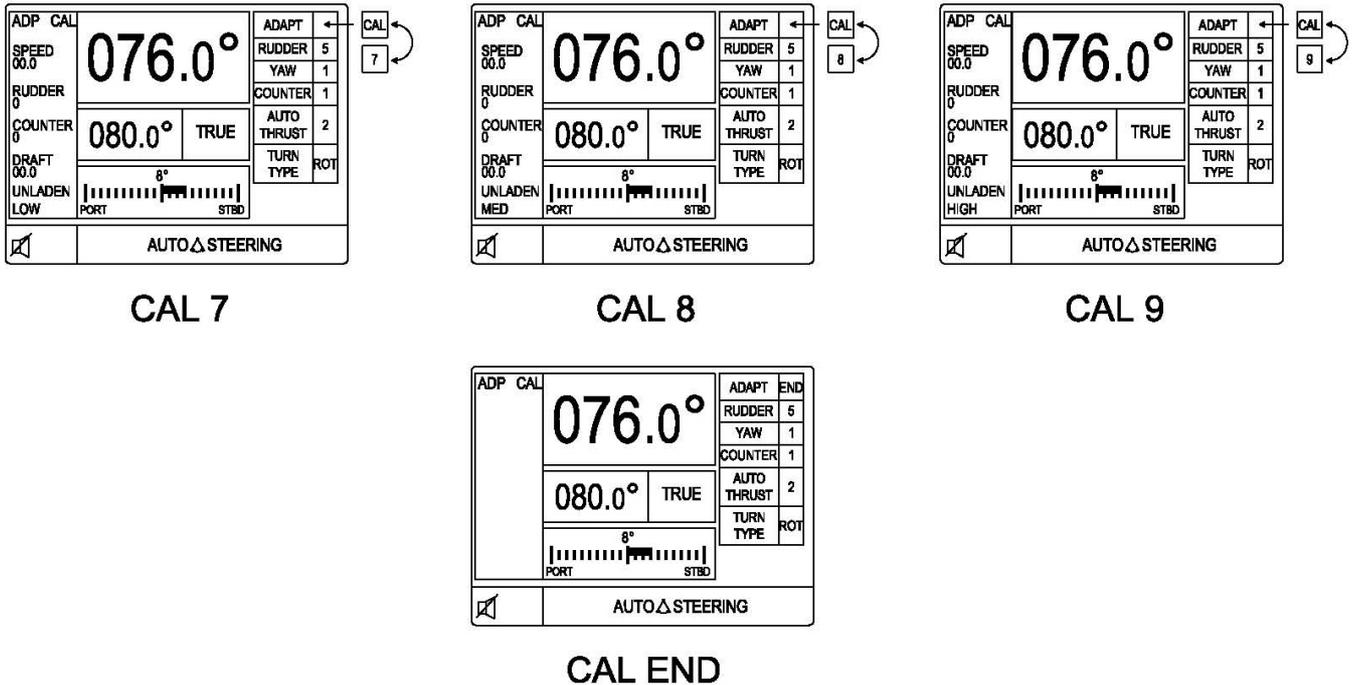

FIG 2.30 Draft Cal
- (c) Use the rotary illumination (\pm) control to step through to calibration parameter **CAL7**. (FIG 2.30 refers)